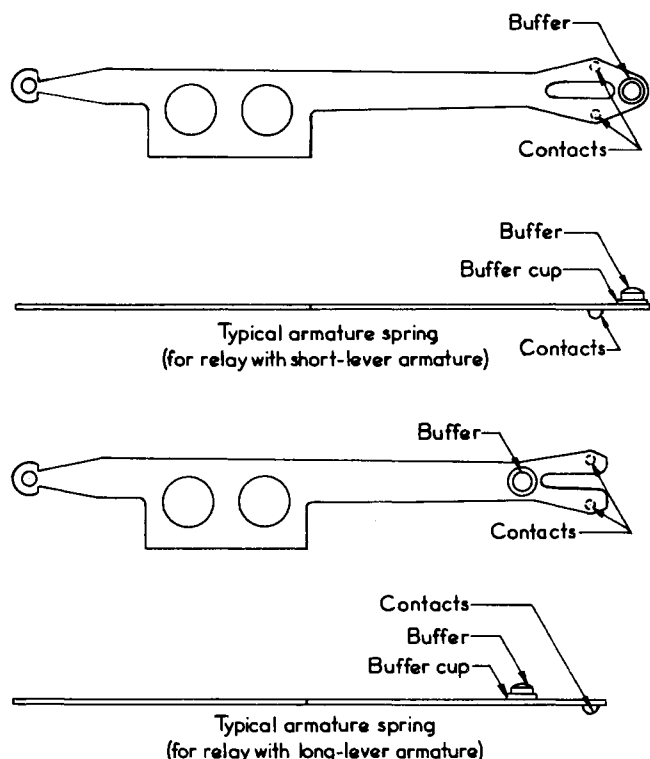

Figure 8. Typical armature springs.
**2.14 Springs:** The springs on Class B and Class C relays are of identical design (see figure 8). The armature springs and break or make springs are of different shapes and thicknesses of nickel silver. They are assembled, then tightened and secured under pressure which
the buffer or cause unnecessary wear, which makes relay readjustment infrequent. On Class B relays with long-lever armatures, the buffers are mounted on the center line of the armature (moving) spring near the bifurcation of the spring. On Class C relays, and on Class B relays with short-lever armatures, the spring buffers are mounted on the center line of the armature springs on the free end of the spring (see figure 8).